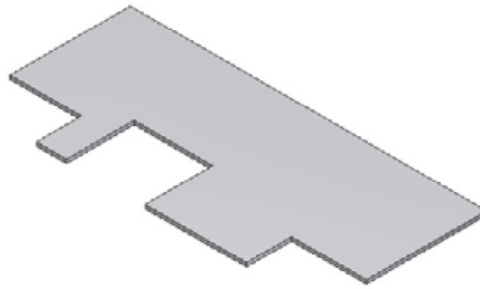

Figure 15-94 Isometric view of the Holder Clip
5. Choose **OK** to create the face and exit the **Face** dialog box. Change the current view to the isometric view, if it is not set to isometric. The isometric view of the Holder Clip is shown in Figure 15-94.